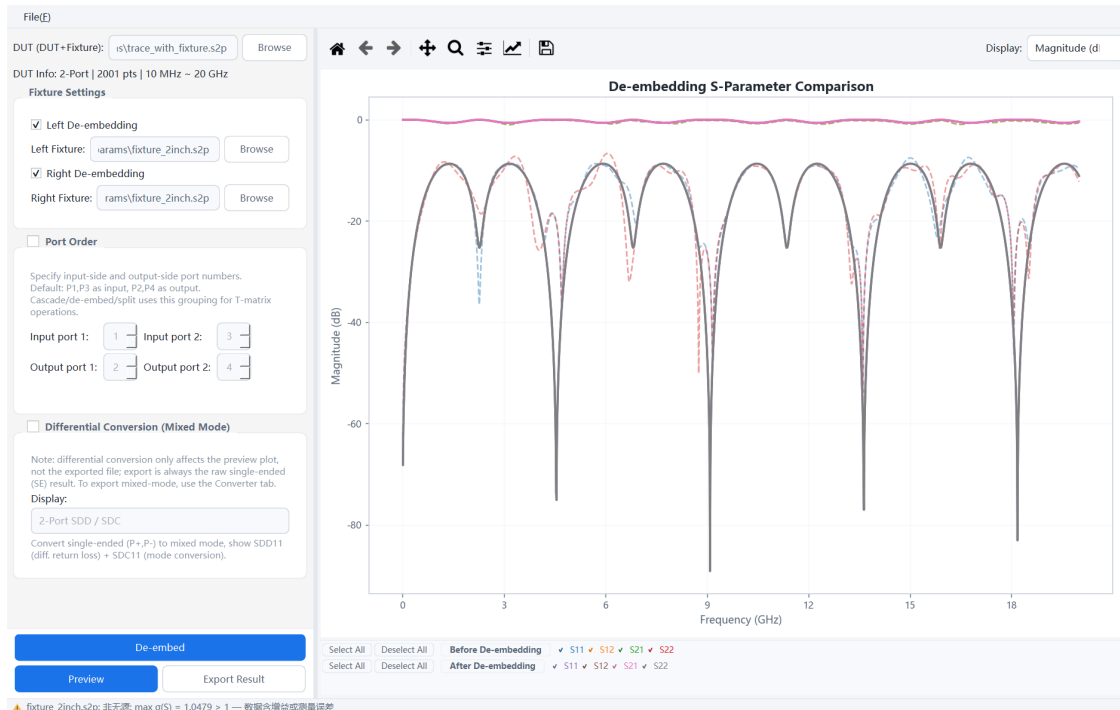

Fig. 7-4 De-embed: both fixtures removed
Step 1 Menu **S-Parameter Analysis** → **De-embed**: DUT = **trace_with_fixture.s2p**; enable the left and right fixtures and set both to **fixture_2inch.s2p**; keep direction 1 → 2, disable differential extraction and four-port configuration, then de-embed (Fig. 7-4).